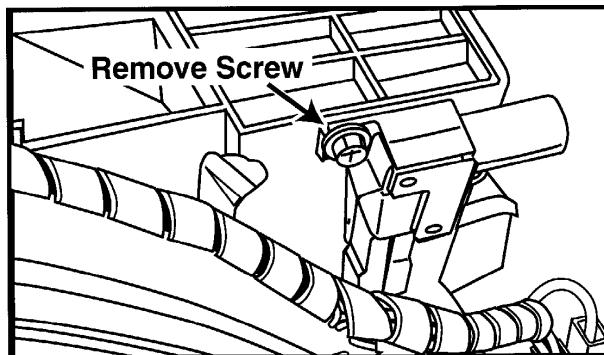

Figure 7-14
3. The switch is located on the upper right hand side of the outer tub assembly (Figure 7-14).